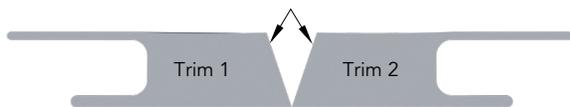

Figure 10
- Rip/cut along the length of the both casings to the determined angle (Figure 10).